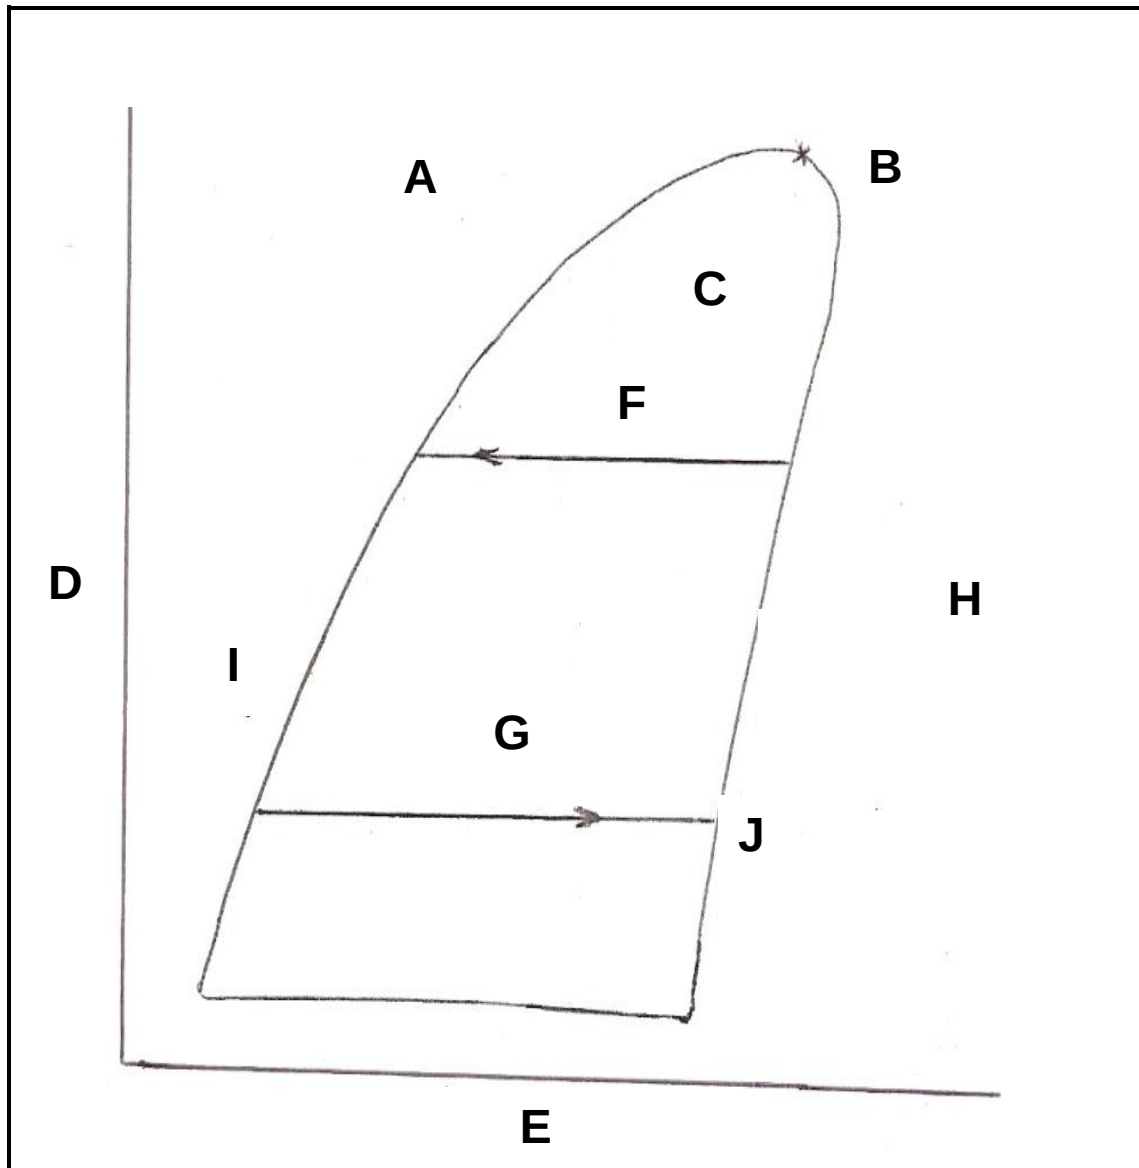

FIGURE 1
1.2 FIGURE 1 below shows a pressure enthalpy (p-h) diagram. Label the parts marked A-J. Write only the answer next to the letter (A-J) in the ANSWER BOOK.